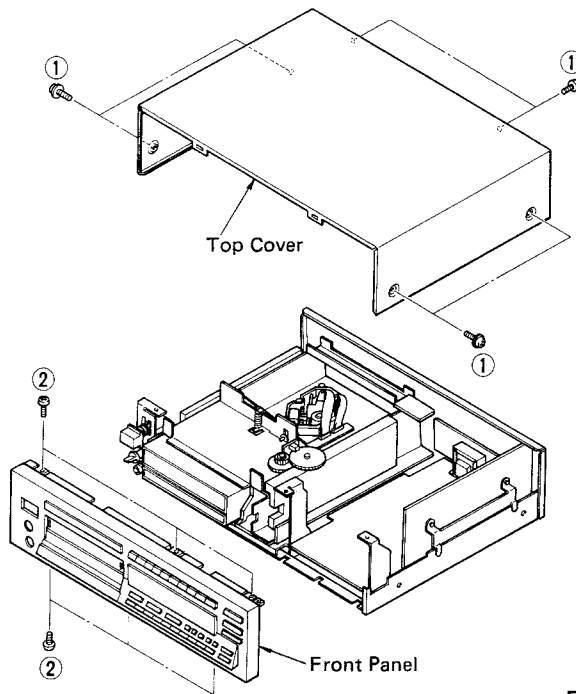

Fig. 1
Remove 6 screws (①) in Fig. 1.
Remove 6 screws (②) in Fig. 1.